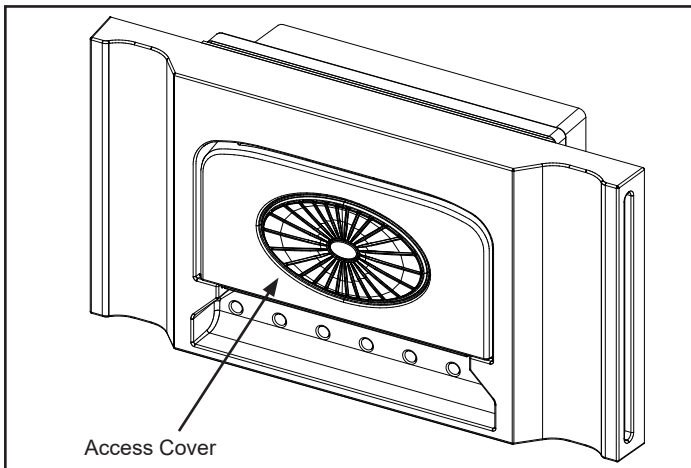

Figure 1 - Locate access cover.
1. Locate the access cover positioned at the rear center of the unit, Figure 1.